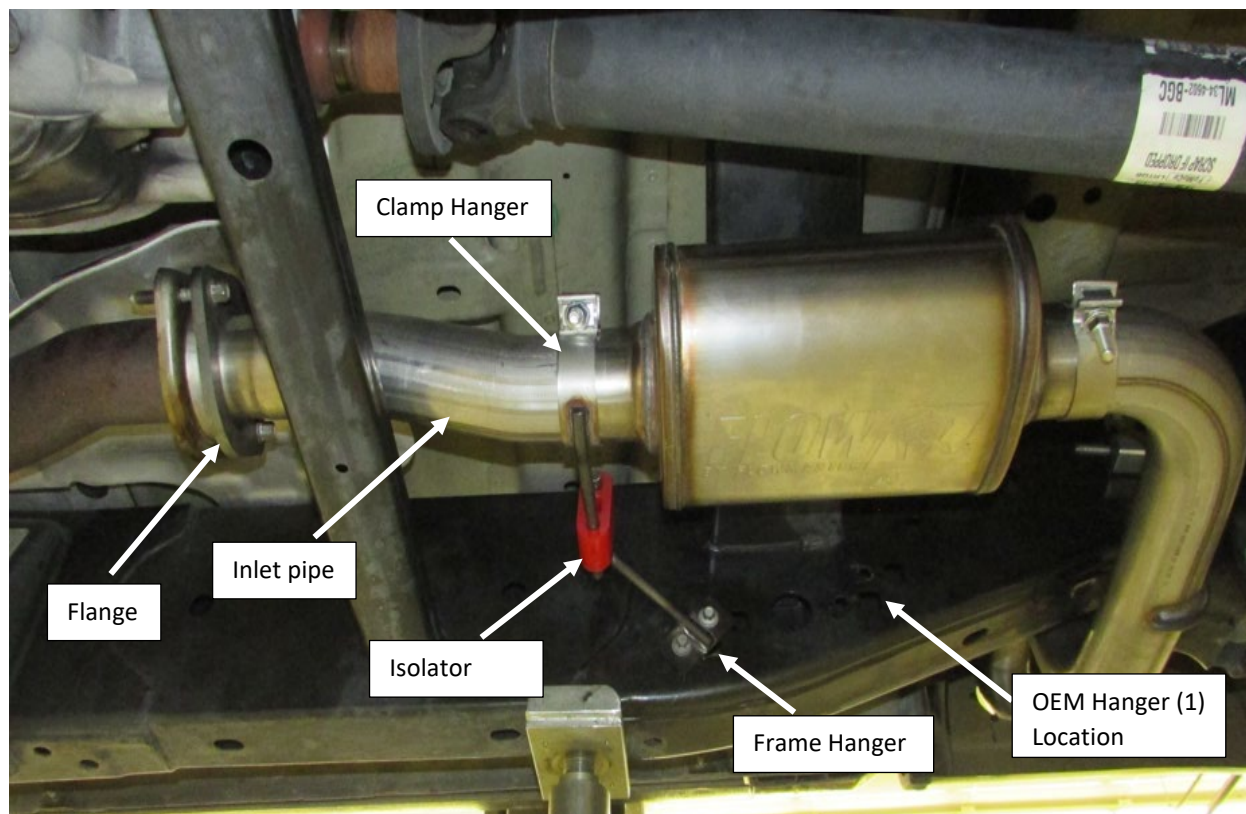

Figure.24
1. Install the supplied flange on to the inlet pipe with the machined side toward the ball flare. **Fig.24**
2. Install the supplied inlet pipe on to the factory down pipe, use the factory bolts that were removed from the resonator. Install the inlet pipe straight and level allowing $\frac{3}{4}$ " space between the pipe and crossmember. **Fig.24**
4. Transfer the clip nuts to the forward location on the frame. Install the supplied frame hanger with the OEM bolts removed from the factory muffler hanger (1). Rotate the hanger clockwise toward the top of the frame and tighten the bolts. **Fig.24**
5. Install the rubber isolator on to the frame hanger rod. **Fig.24**
7. Install the hanger rod into the rubber isolator bottom hole. **Fig.24**
8. Install the FFX muffler on to the inlet pipe approximately 2.5" with the weld seam facing the drive shaft. **Fig.24**
9. Position the Clamp hanger on to the muffler inlet as shown. Tighten the clamp to allow for adjustment. **Fig.24**